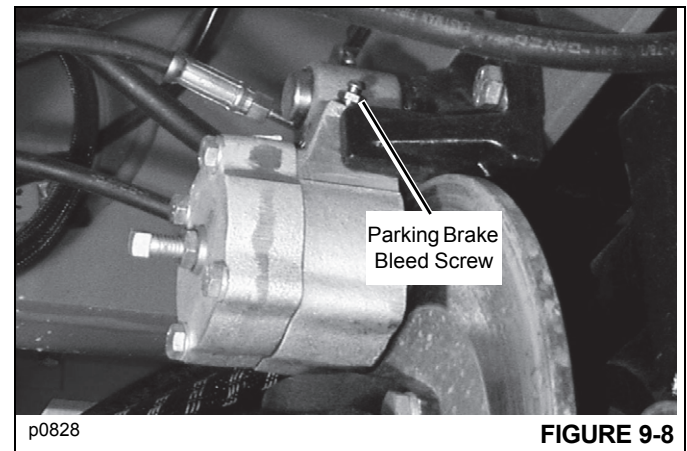

FIGURE 9-8
2. Attach a tube to the bleed screw on the parking brake Figure 9-8 and place the other end in a suitable container.